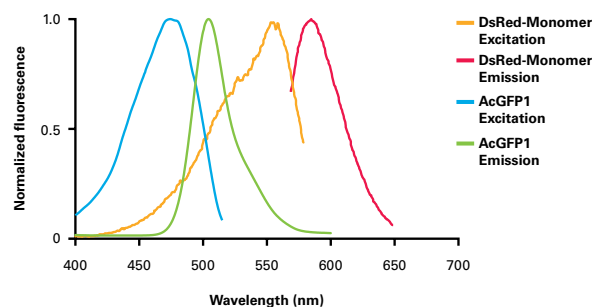

Figure 1. Excitation and emission spectra of DsRed-Monomer and AcGFP1.
is added to the sample, it binds to the DD and protects the reporter from degradation, so that it can accumulate (Figure 1; 1).
Figure 1. Ligand-dependent, targeted, and reversible fluorescent protein reporter stabilization. A small destabilization domain (DD) is fused to the fluorescent protein reporter. The small membrane-permeant ligand Shield1 binds to the DD and protects the entire fusion protein from proteasomal degradation. Removal of Shield1, however, causes rapid degradation of the entire DD-fluorescent protein reporter. The default pathway for the DD-Fluorescent Protein Reporter Systems is degradation of the DD-fluorescent protein reporter, assuring low background, unless Shield1 is present.
multicolor applications with DsRed-Monomer to simultaneously visualize the subcellular localization of two proteins of interest (Figures 1–2). It also performs well in cell-based assays that monitor subcellular protein trafficking, and cells are easily detected and sorted by flow cytometry.